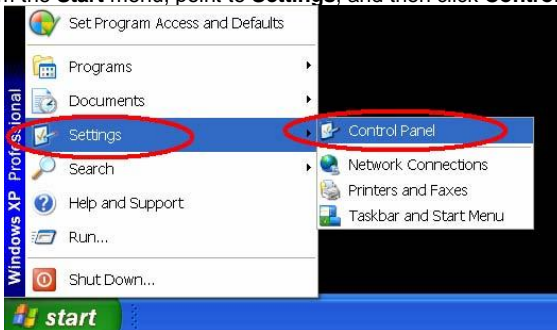

Figure A-14
**Step 1:** From the **Start** menu, point to **Settings**, and then click **Control Panel**. See Figure A-14.